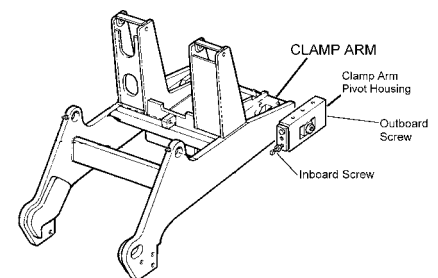

Figure 47B
1. Loosen four locknuts (one on each end of both housings). See Figure 47B.